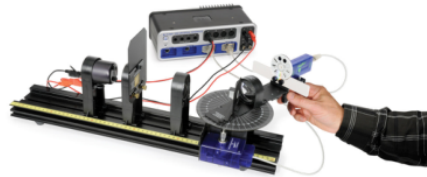

Figure 1: Complete Setup
5. Plug the Voltage Sensor into the Analog A input (see Figure 1). Attach the red lead to the red banana lead on the Blackbody Light Source. Attach the black lead to the black banana on the Blackbody Light Source. Do Not attach the lead to the output jacks on the 850. The current is large enough that there is a voltage drop along the wires connecting the 850 output to the Blackbody Light Source and we want to measure the voltage at the light source.